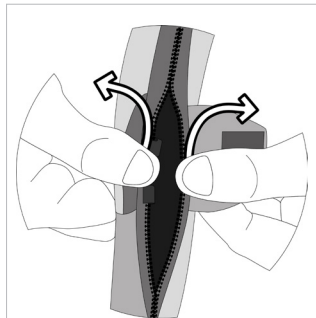

FIGURE 14 Pull apart the cover
2. Hold the cover on either side of the breakout point and pull apart the zipper (Fig. 14).